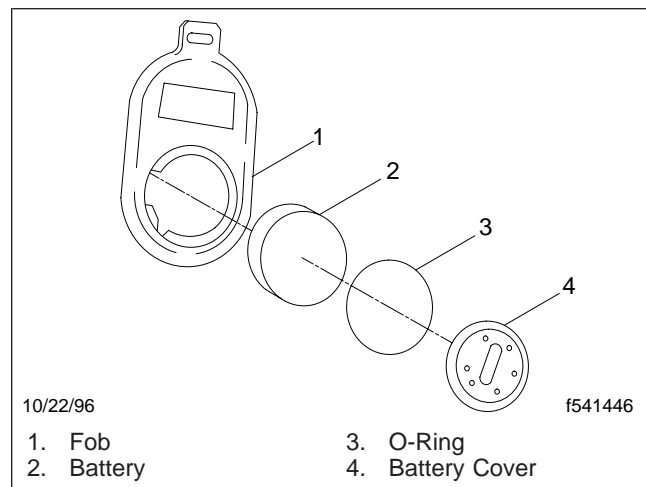

Fig. 3.12, Fob Battery
1. Open the battery cover on the back of the fob with a suitable coin or other thin piece of metal. Twist off the cover. See Fig. 3.12.